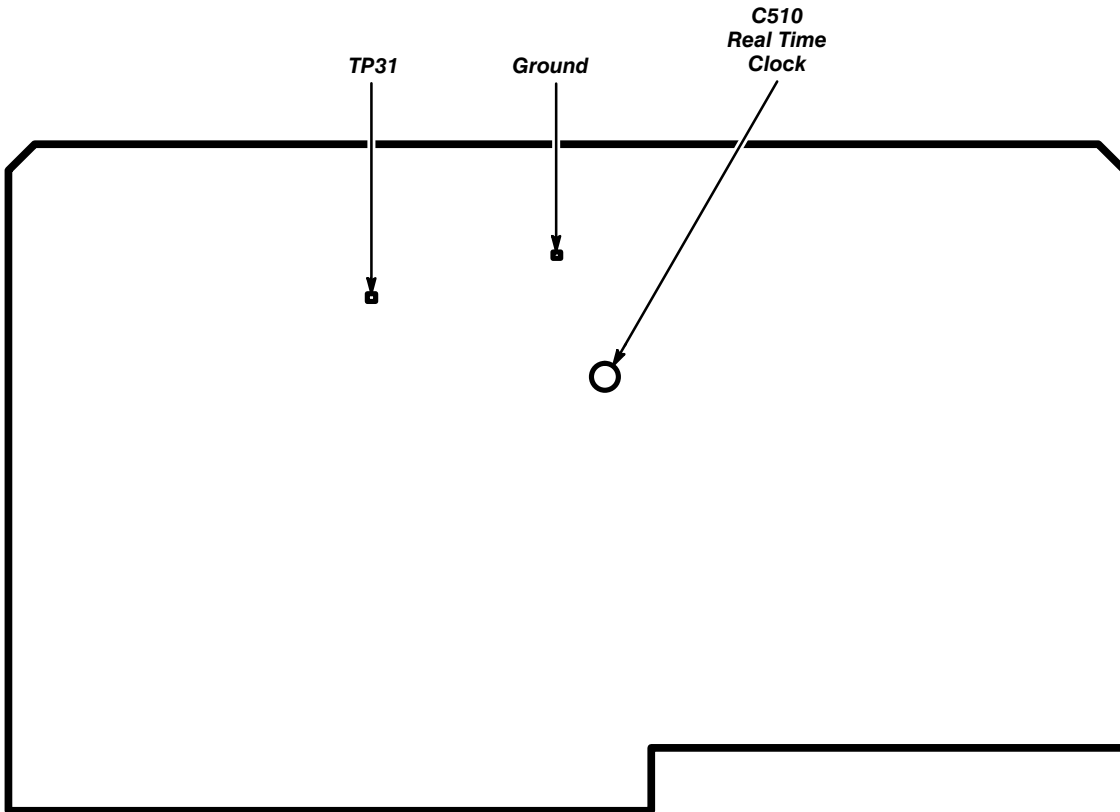

Figure 5-6: A14 I/O Board Test Point and Adjustment Locations
This procedure verifies the correct operation and accuracy of the CSA 803A's input/output systems (see Figure 5-6).
Step 3: Connect the Frequency Counter as indicated in the setup diagram (see also Figure 5-6), and set the controls as follows: